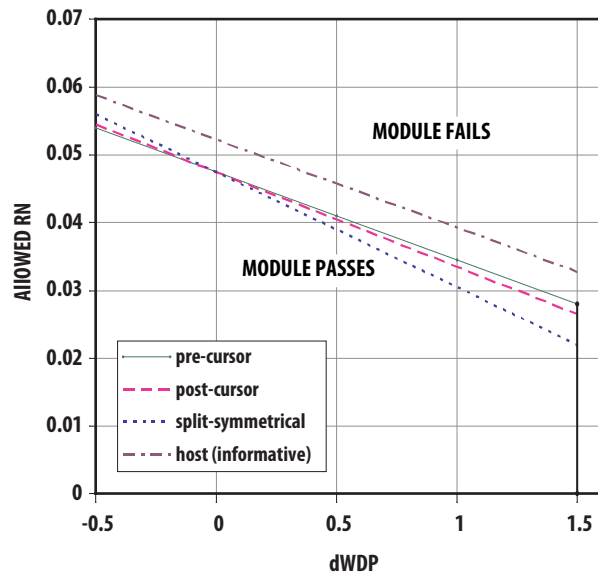

Figure 4. RN and dWDP compliance regions for LRM [proposed]
6. The following values for max RN are taken from Revision 3.0 of SFF8431 are subject to change; (the values of m and b are defined with reference to Figure 4).